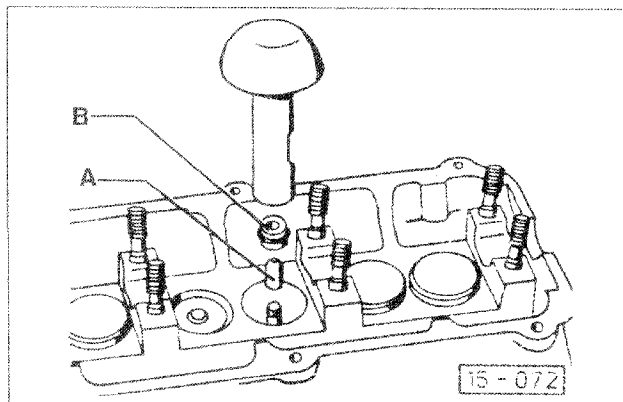

Fig. 4-17. Protective cap **A**, new valve stem oil seal **B**, and installing tool.
5. Install each new valve stem oil seal by temporarily fitting the protective plastic cap over the valve stem end, and then hand-pressing the seal onto the valve stem as shown in Fig. 4-17. Remove the protective cap for use on the next valve.